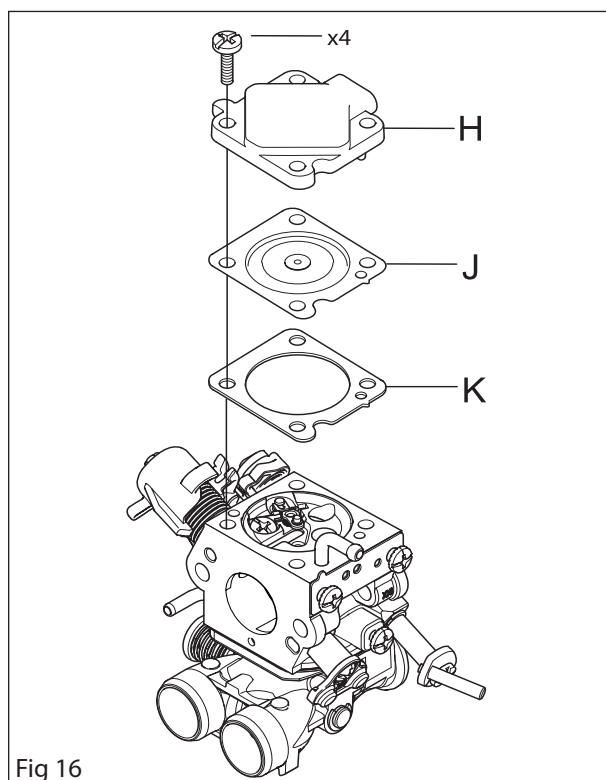

Fig 16
7. Fit gasket (K), the metering diaphragm (J) and the metering cover (H). See figure 16.